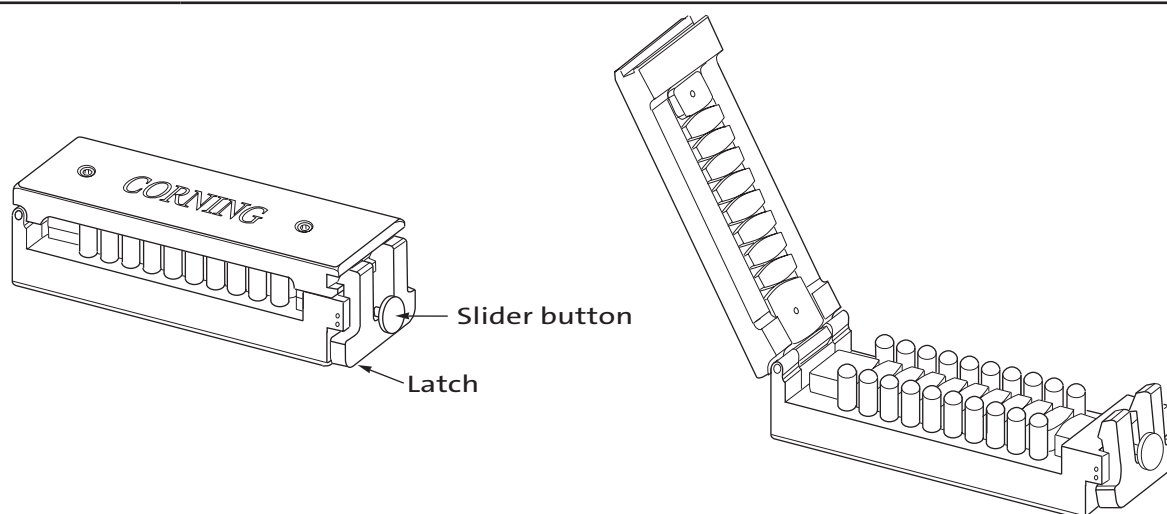

Figure 1
- 1.1 This procedure describes how to divide fiber optic ribbons with the Corning Optical Communications Ribbon Splitting Tool (p/n RST-000) (Figure 1). Both mid-span and end-of-ribbon applications are covered in this procedure.